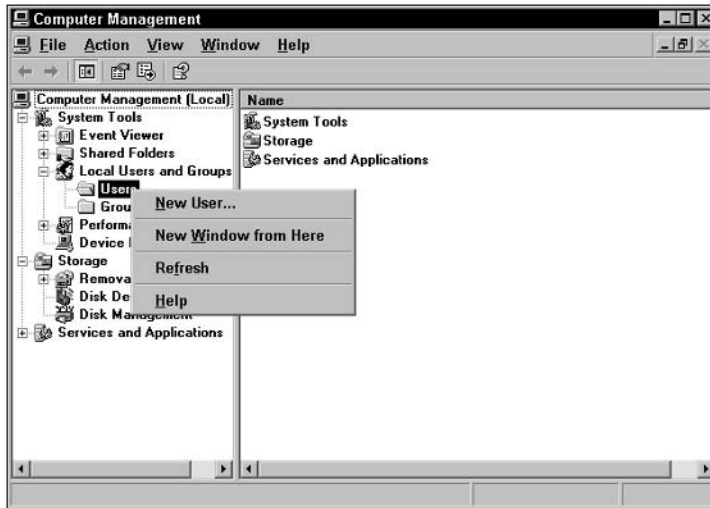

Figure 18-8: Use this window to create new Windows accounts.
2. Click Computer Management to display the Computer Management window (see Figure 18-8).